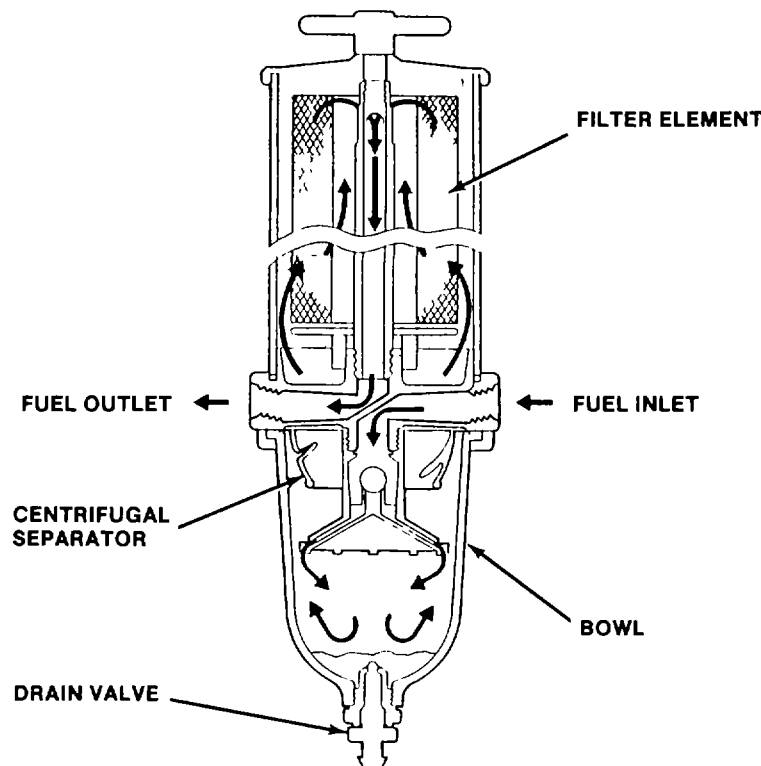

Figure 1-20. Fuel/Water Separator
b. Fuel/Water Separator. The fuel entering the fuel/water separator is filtered in three stages. In the first stage, liquid and solid contamination up to 30 microns in size, is removed by centrifugal action in the lower part of the filter unit, (see fig. 1-20). In the second stage, liquid contamination flows with the fuel into the filter separator shell. The liquid contamination collects on the surface of the shell and on the replaceable element and forms drops. As these drops become heavier, they fall to the bottom of the filter separator bowl. In the third stage, the fuel flows through the filter element where minute solid particles are removed. The separator unit is equipped with a thermostat-controlled electric disc heater. This heater is set to switch on when the temperature of the fuel drops below 35 deg. F (2 deg. C). When in operation, the heater prevents formations of wax and thereby ensures a free fuel flow through the filter. The electric circuit to the heater is controlled via the engine ignition switch.